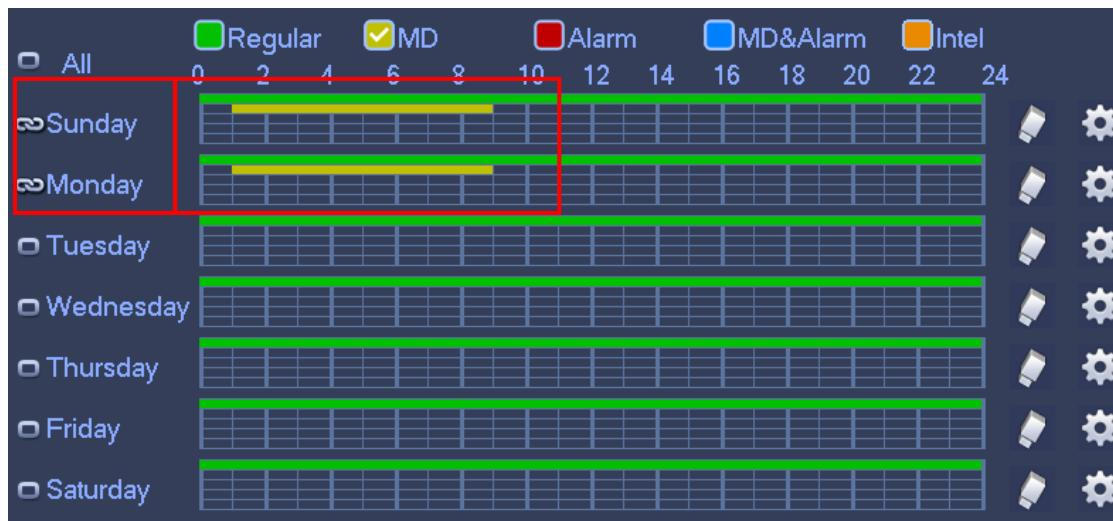

Figure 4-42
- ❖ Please draw manually to set record period. There are six periods in one day. See Figure 4-42.